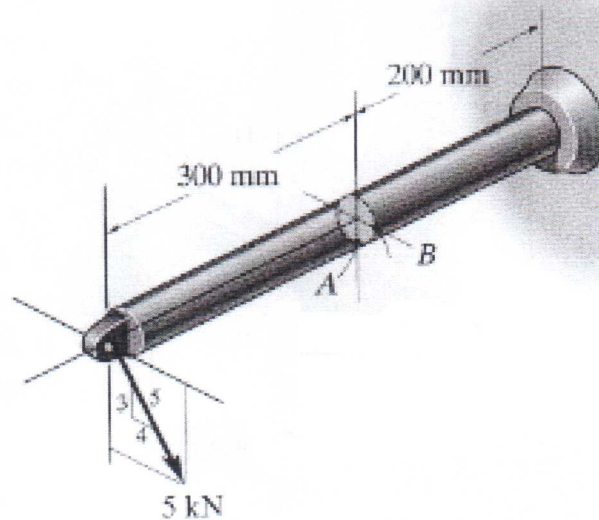

Figure 4.
- (4) The bar, shown in Figure 4, has a diameter of 80 mm. Determine the stress components that act at points A and B .